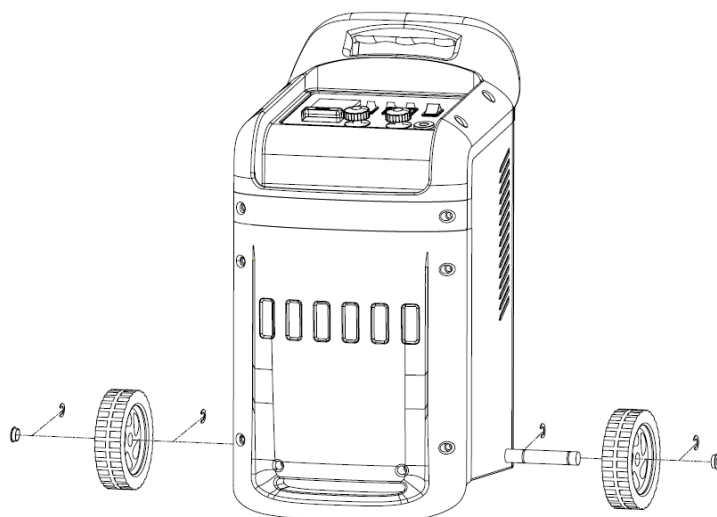

Fig.1
3.1 ASAMBLAREA GENERALĂ (Vezi Fig.1)